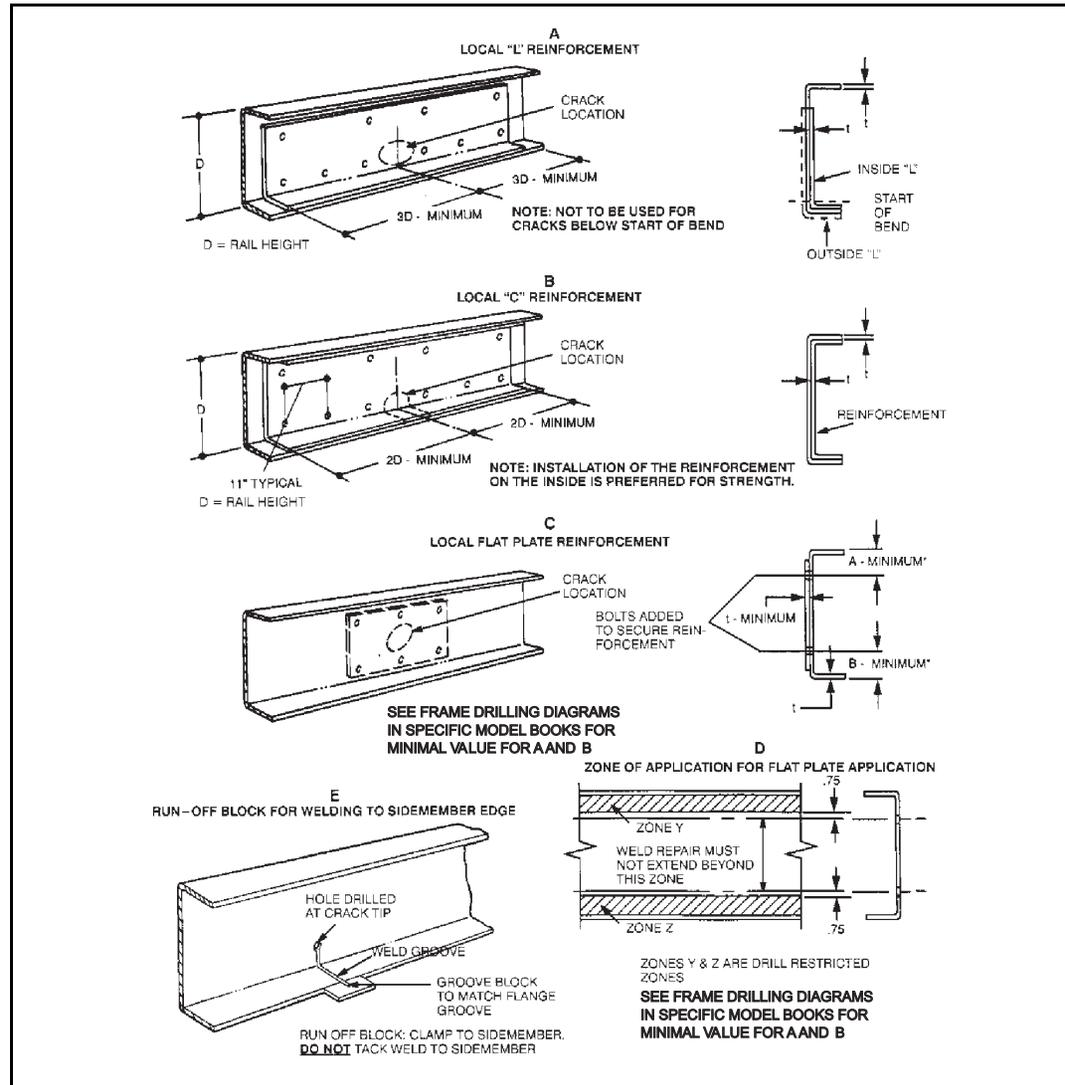

Figure 2.5 Reinforcement Application
therefore the various types of reinforcements are identified with general descriptions of their applications and installation procedures. To aid in making the distinctions between the more critical flange area and the less critical web area, critical zones are defined as shown (Figure 2.5 D).
Steps 1 and 2 above also apply to the full length “L” reinforcements available from International. All of these are the inverted “L” type and are designed for installation on the outside of the sidemember section (except 9000 Series) (Figure 2.5 A).
This type of reinforcement must be custom-fabricated either by cutting lengths from “full length” reinforcements or by forming from flat stock (Figure 2.5 B).
2. Figure 2.5 B gives recommended dimensional data and attachment specifications for a typical installation. Holes drilled for the attachment must be within the frame drilling guidelines in the specific model body builder book.
This type of reinforcement is recommended for cases in which the weld repair is confined to the web of the section but extends beyond the application zone of the flat plate reinforcements shown in Figure 2.5 D.
1. Figure 2.5 A shows a typical installation for an “L” reinforcement on the inside of a sidemember section along with minimum recommended dimensions.
This reinforcement is intended for the less critical, web portion of the sidemember section where typical cracking is due to local stresses which tend to “diaphragm” or “dish” the web without creating appreciable stresses for overall bending of the section. Typical crack patterns radiate out from the edge of a mounting bracket or crossmember or from a hole in the web. Cracks which radiate from a web hole occupied by a fastener are frequently an indication of a defective joint, whether by the loosening of the fastener or poor joint design (Figure 2.5 C).
The flat plate reinforcements are recommended for weld repairs in which the weld does not extend beyond the zone defined in Figure 2.5 D.
1. A typical installation is shown in Figure 2.5 C. The length and height of the plate will vary with the size of the weld repair area. In general it should be such that it will accommodate an array of reinforcement attachment bolts at a typical 3 to 5 inch (76 to 127 mm) spacing all around the weld repair area.